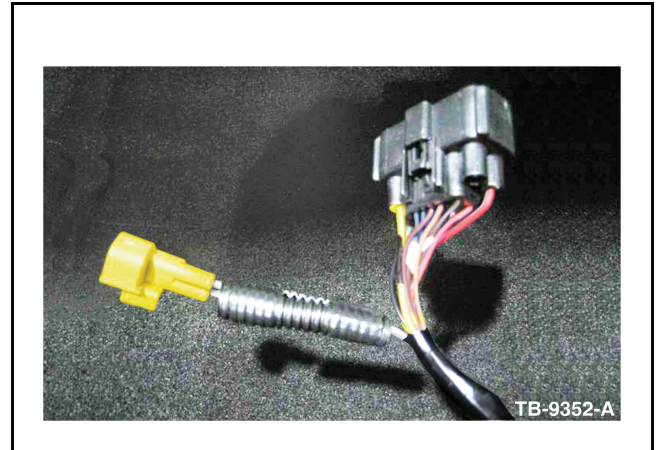

Figure 6 - Article 09-8-7
8. Cut convolute provided with service pigtail to a 2.25" (5.7 cm) length. Install the convolute over the pigtail wires and tape each end of the convolute to prevent it from coming off wiring. (Figure 6)